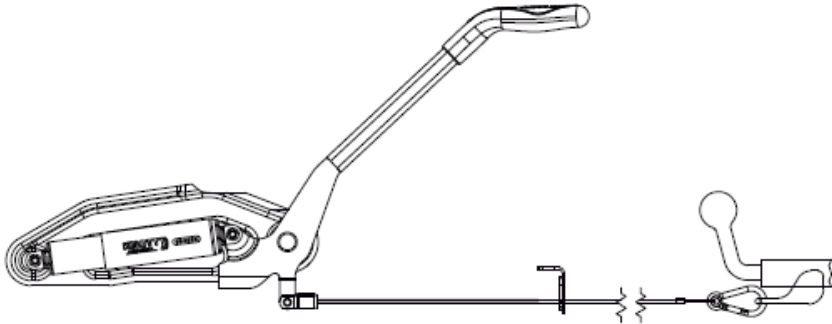

Fig. 1. Correct attachment of the breakaway cable.
The trailer/caravan must be hitched to the towbar of the vehicle using a tow ball hitch of the caravan. A description of how to hitch the caravan to the towbar of your vehicle is given in chapter 2.7 of this manual. Trailers/caravans are equipped with breakaway cable which must be securely attached to the towbar (Fig. 1). Remember also to connect the electrical plug of the caravan to the socket of the vehicle.
- The cable must be attached to the hitching device as shown in Fig.1.